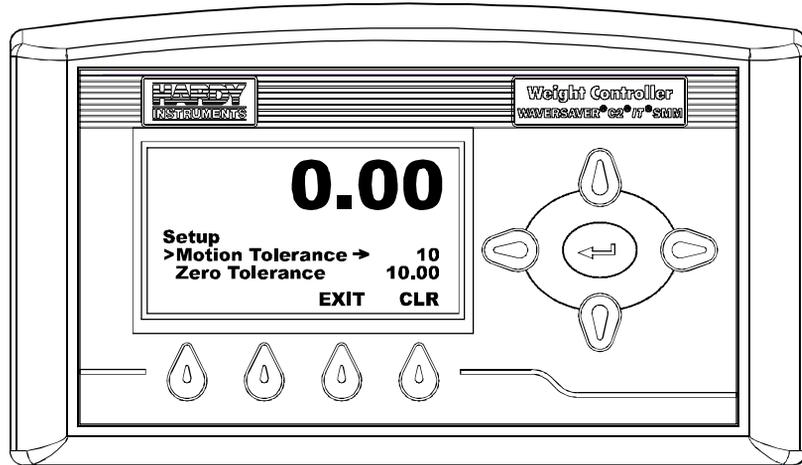

FIG. 75 SETUP MENU/SELECTING MOTION TOLERANCE
- Step 1. Press the Down Arrow button until the cursor is in front of Motion Tolerance. (See Fig. 75) The present motion tolerance value is displayed.